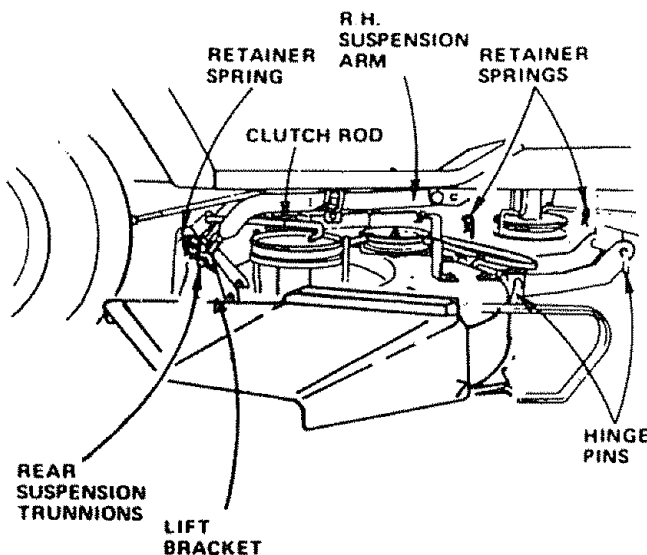
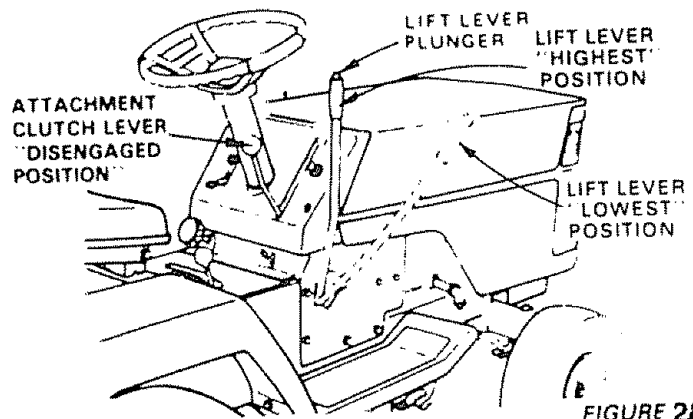
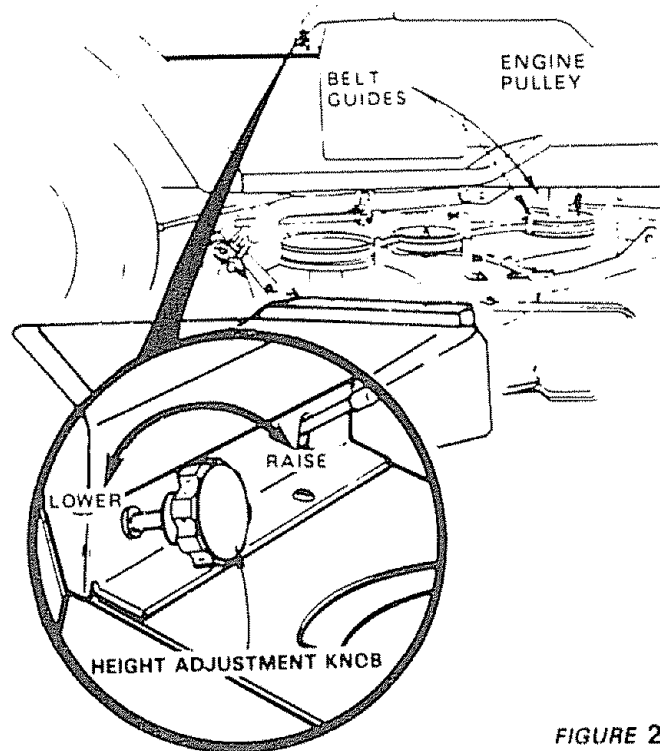

FIGURE 27
FIGURE 28
FIGURE 29
- Remove retainer spring from clutch rod; pull clutch rod out of clutch bracket. (Fig. 27)
- Pull retainer springs out of rear suspension trunnions. Remove rear suspension trunnions from lift brackets (Fig. 27).
- Pull retainer spring out of rear hinge pin. Remove rear hinge pin. (Fig. 27)
- Pull retainer spring out of front hinge pin. Remove front hinge pin (Fig. 27).
NOTE: IF AN ATTACHMENT OTHER THAN THE MOWER DECK IS TO BE MOUNTED ON THE TRACTOR, THE L.H. AND R.H. SUSPENSION ARMS (FIG. 27) SHOULD BE REMOVED FROM TRACTOR.
Your Mower installs without the use of tools. Raise Attachment Lift Lever (Fig. 28) to its highest position. Turn height adjustment knob to lowest position (Fig. 29).
- Move Attachment lift lever (Fig. 28) forward to lower suspension arms. Slide trunnions through lift bracket holes and secure with retainer springs (Fig. 27).
- Roll belt over engine pulley. Make sure belt is inside belt guides (Fig. 29). See belt drive schematic decal on mower housing.
- Use Attachment lift lever (Fig. 28) to raise mower.
- Turn height adjustment knob clockwise (↻) to the middle of its travel, or to desired cut height (Fig. 29).
- Place attachment clutch lever in "Disengaged" position (Fig. 28)
- Turn height adjustment knob to lowest position. Move Attachment lift lever (Fig. 28) forward to lower mower to its lowest position.
- Roll belt off engine pulley (Fig. 29).